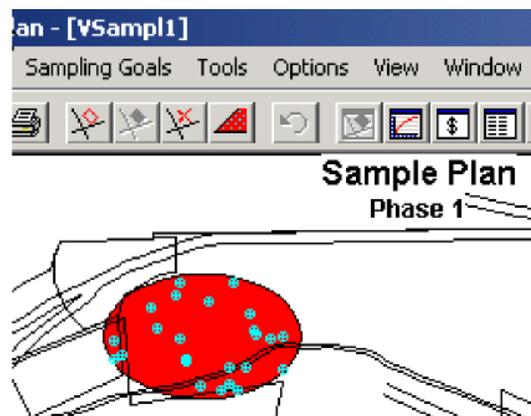
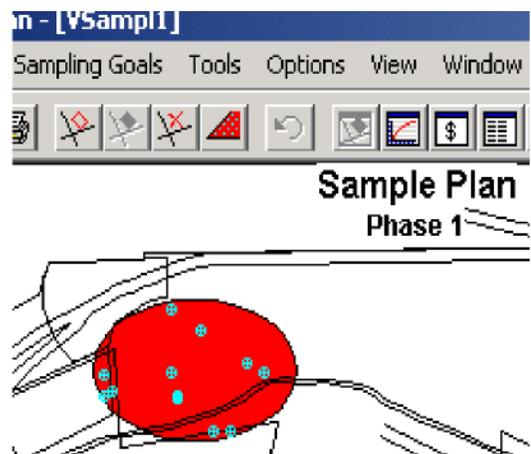

Figure 2.36 Example Sample Area with Sampling Locations
Figure 2.37 Example Study Area after Sampling
4. Choose the Main Menu; select **Sampling Goals > Compare Average to Fixed Threshold > Data not required to be normally distributed > Ordinary sampling of symmetric distribution**. Click the Apply button to place samples in the Sample Area. You should now have a Sample Area with 24 sampling locations similar to that shown in **Figure 2.36**.
7. Finally, to remove the sampling locations listed in *Remove.txt* from the Sample Area, choose Main Menu option **Map > Sample Points > Remove**. Select the file *Remove.txt* and click the **Open** button. You will see in **Figure 2.37** there now are only 16 sample points instead of the original 24 shown in **Figure 2.36**.